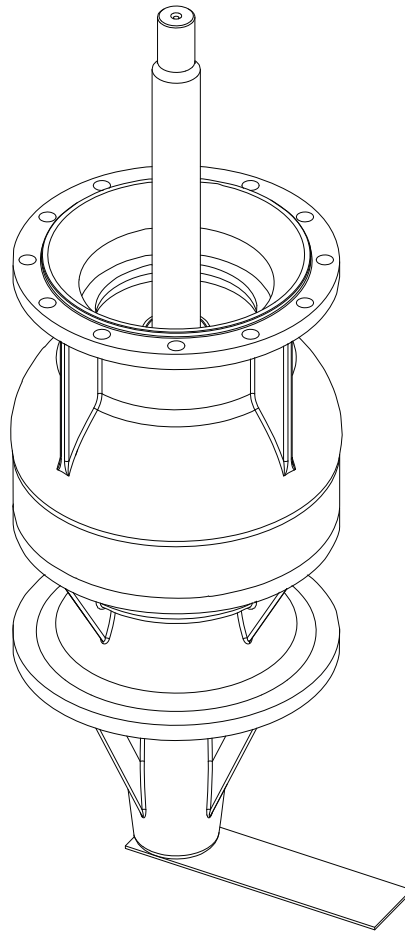

Figure 4-5: Shaft Locking Plate
5. Check bottom of the pump. Sleeve-type mechanical seal units shipped completely assembled are supplied with a shaft locking plate which must be removed and replaced with a pipe plug (plug is required only on grease packed suction bearings) prior to installation (refer to Figure 4-5 on page 18).